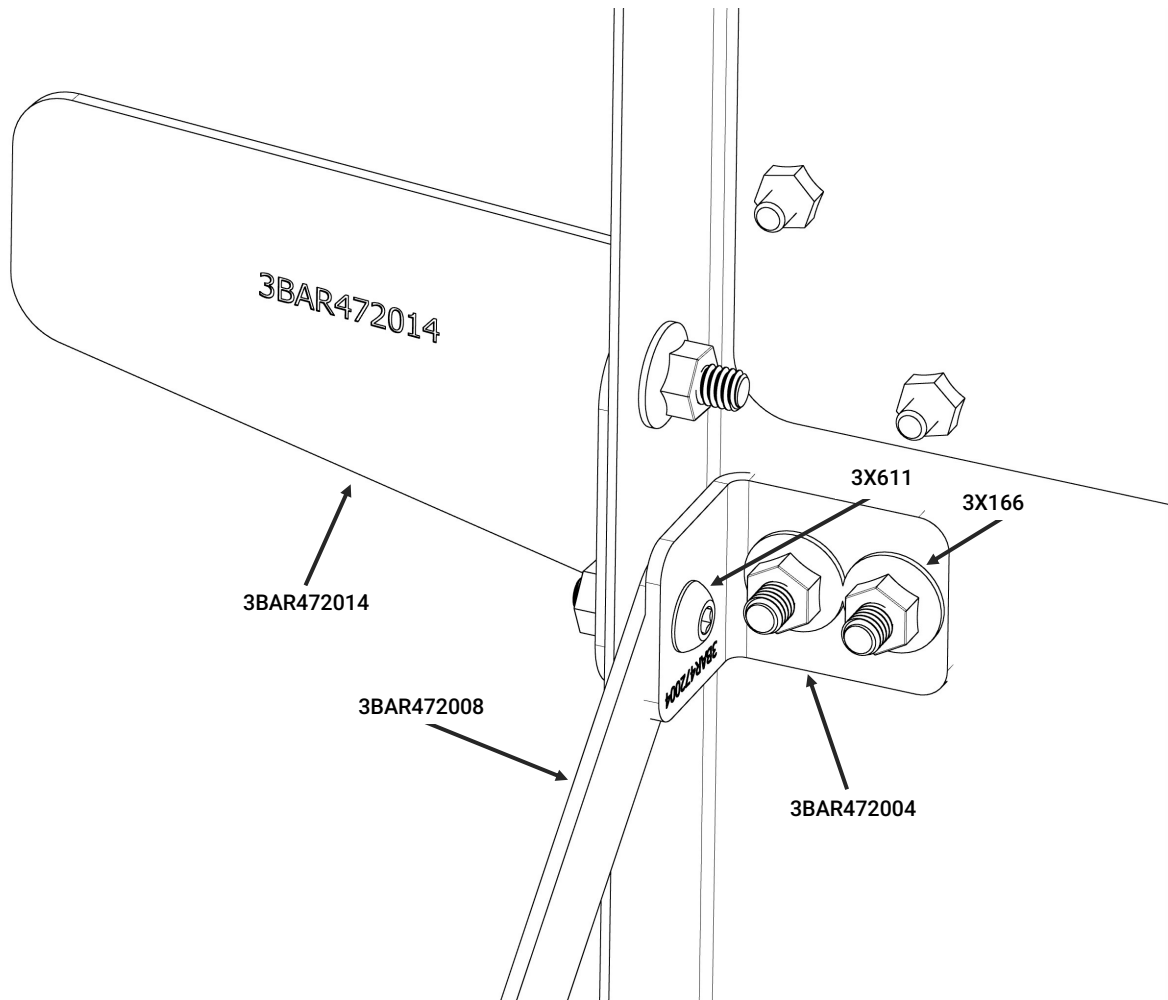

Figure 2
- A. Locate the Wing Support Bracket [3BAR472014], (1) Barrier Bracket [3BAR472004], (1) Barrier Diagonal Support [3BAR472008], (4) Button Head Screws [3X611], and (4) whiz nuts [3X166]. See Figure 2 for an illustration of the assembled components.
- B. Place the side of the Barrier Bracket [3BAR472004] with two holes in it against the back side of the barrier. Align the two holes in the bracket with the corresponding holes on the driver side just underneath the window making sure the side with a single hole in it is towards the outside of the vehicle. Loosely secure in place with (2) [3X611] screws and (2) [3X166] whiz nuts.
- D. Position the Wing Support Bracket [3BAR472014] flush with the front of the barrier. Slide the lower hole of the bracket over the [3X611] screw installed in the previous step. Loosely secure in place with (1) [3X166] whiz nut on the lower screw and (1) [3X611] screw and (1) [3X166] whiz nut in the upper hole.
- E. Repeat steps A. - D. on the passenger side using the passenger Wing Support Bracket [3BAR472013], the second Barrier Bracket [3BAR472004], the second Barrier Diagonal Support [3BAR472008], (4) more Button Head Screws [3X611], and (4) more whiz nuts [3X166].